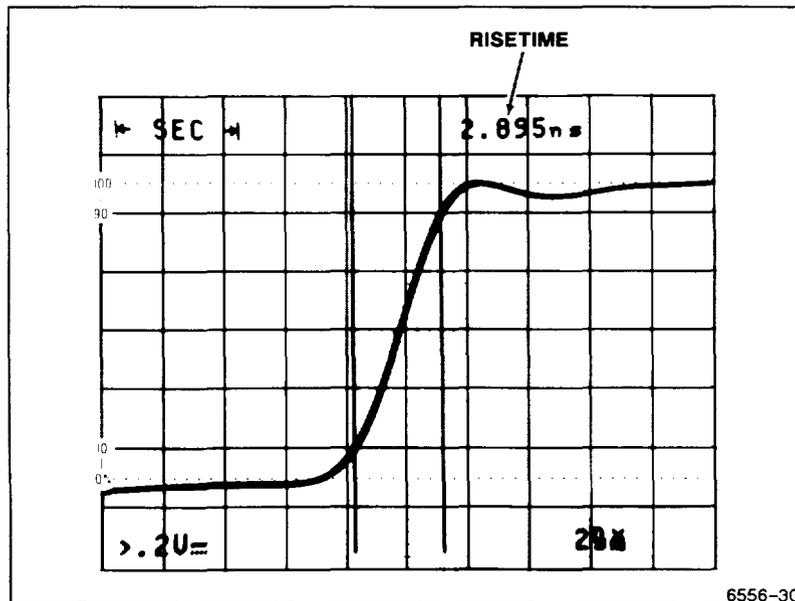

Figure 5-7. Rise-time measurements.
5. Advance the SEC/DIV setting to stretch out the rising edge of the waveform as much as possible to improve the cursor placement accuracy (see Figure 5-7).
9. Use the ← OR DELAY control to align the first cursor to the rising edge at the point it crosses the 10% reference graticule line, Then use the → control to align the second cursor to the point the rising edge crosses the 90% graticule line and read the rise time displayed in the top line of the crt readout (see Figure 5-7).